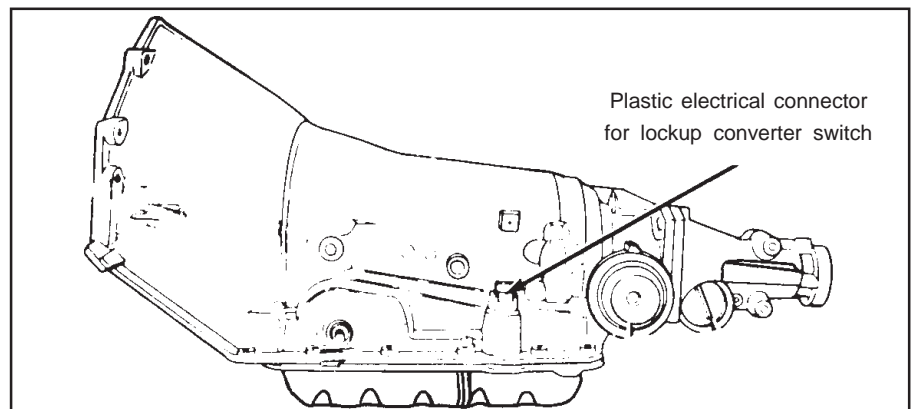
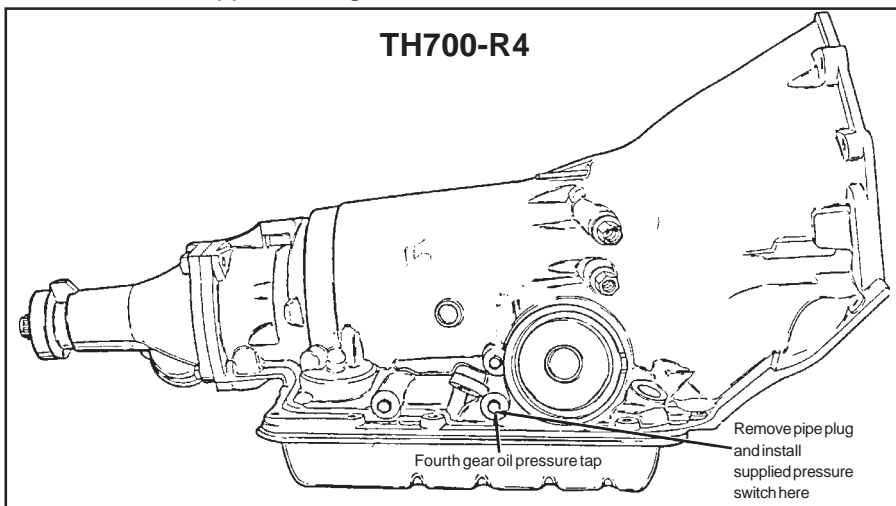
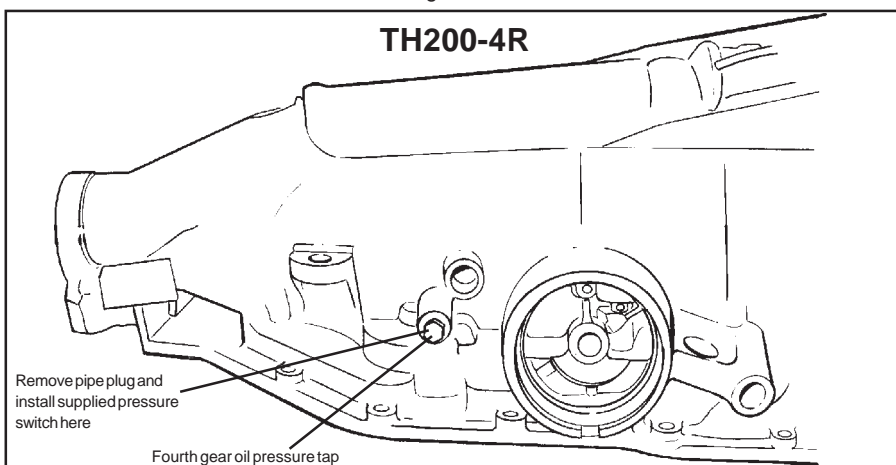

Figure 1
Figure 2A
Figure 2B
STEP 2. Locate the plastic electrical connector on the driver's side of the transmission. **See Fig. 1.** The connector will have from one to three wires connected to it. If there is more than one wire, select the wire going to the terminal marked "A" on either the plug or the socket. Cut the selected wire about 3-4" away from the plug.
Locate the plastic electrical connector on the driver's side of the transmission. **See Fig. 1.** Locate the fourth gear oil pressure tap on the transmission case. **See Figure 2A** for the TH700-R4 location and **Figure 2B** for the TH200-4R tap location.